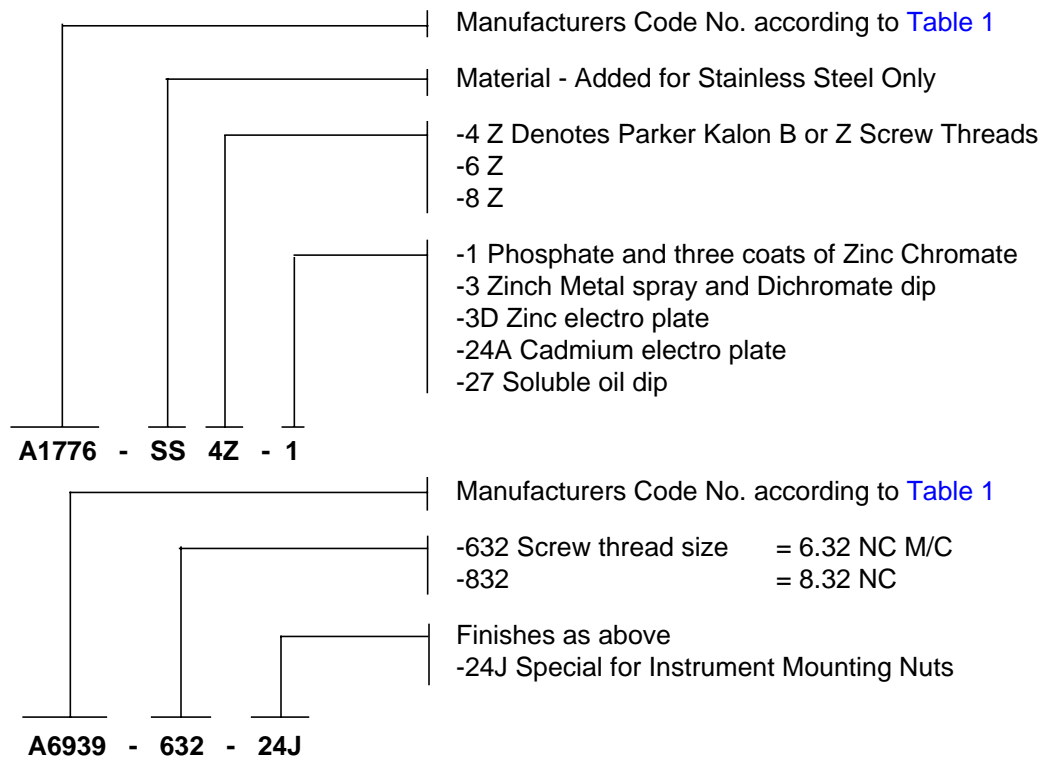

Figure 1 - Designation of Part Numbers
- 4.1.1 Speed nuts and, as applicable, washers and rivets as specified on the Engineering drawing. See Figure 1 for designations of part numbers.